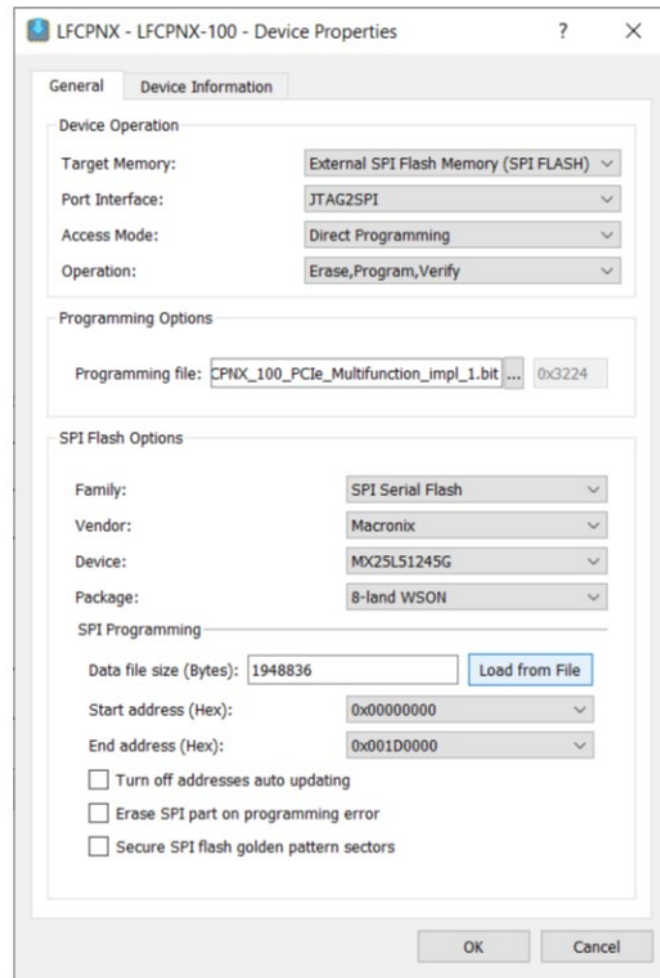

Figure 3.11. Device Properties Window for CertusPro-NX SPI Flash Programming (with Macronix Flash)
- For CertusPro-NX family, select the settings as shown in Figure 3.11 below.